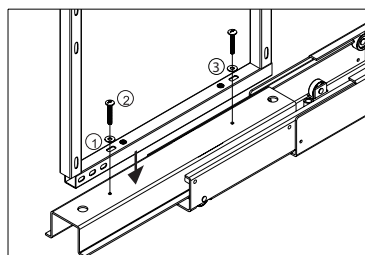

fig. 5
5) The bottom of the frame sits on top of the bottom slide (C) as shown in figure 5. Use M6 screw (#2) and washer (#3) to attach.